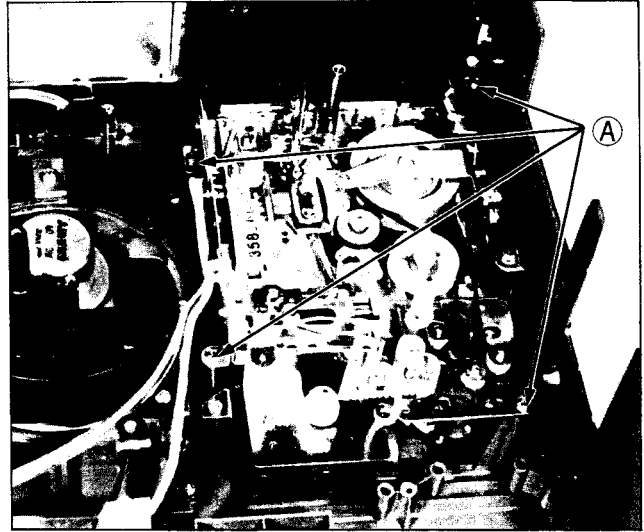

Fig. 8
Unfasten the four screws marked (A) in Fig. 8 and pull out the cassette recorder unit while holding its rear side upward.